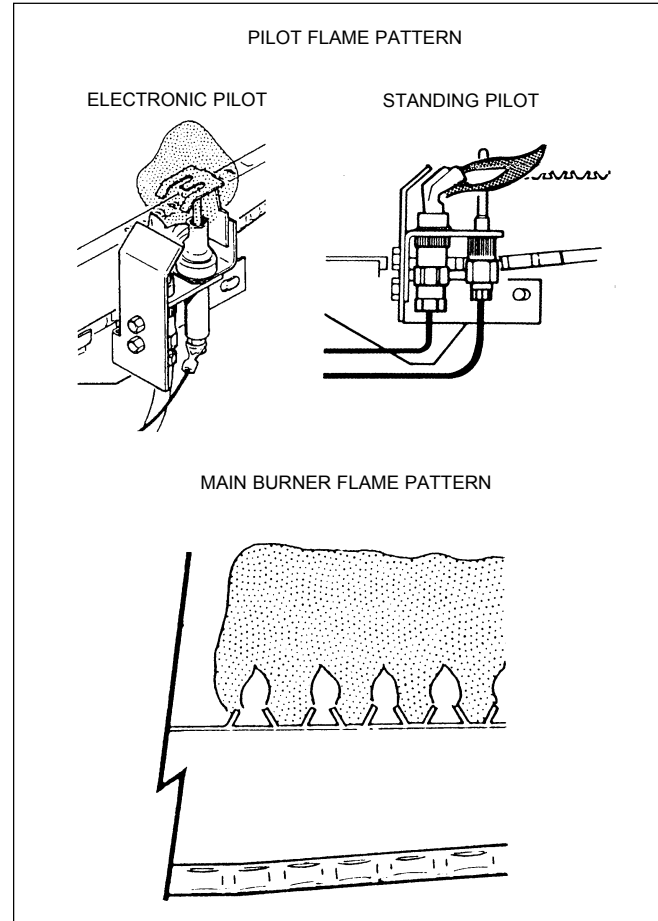

Figure 31. Flame Patterns.
3. At startup and every 6 months after, look at the pilot and main burner flame (see Figure 31). Use inspection mirror. Characteristics of a good flame are: